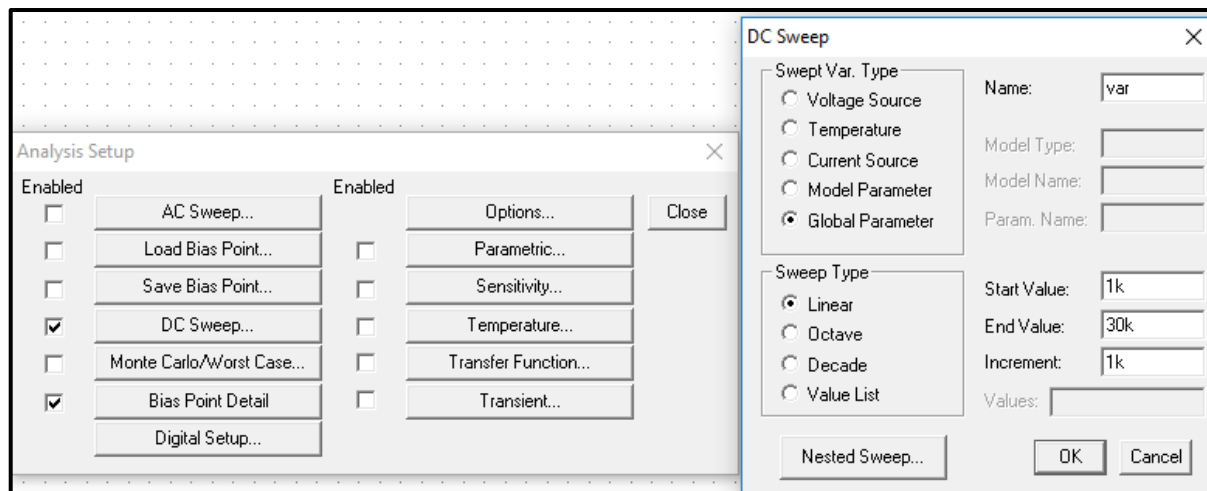

Figure.30
- Click on “setup analysis” and select DC sweep, fill in parameters as shown in figure 30.